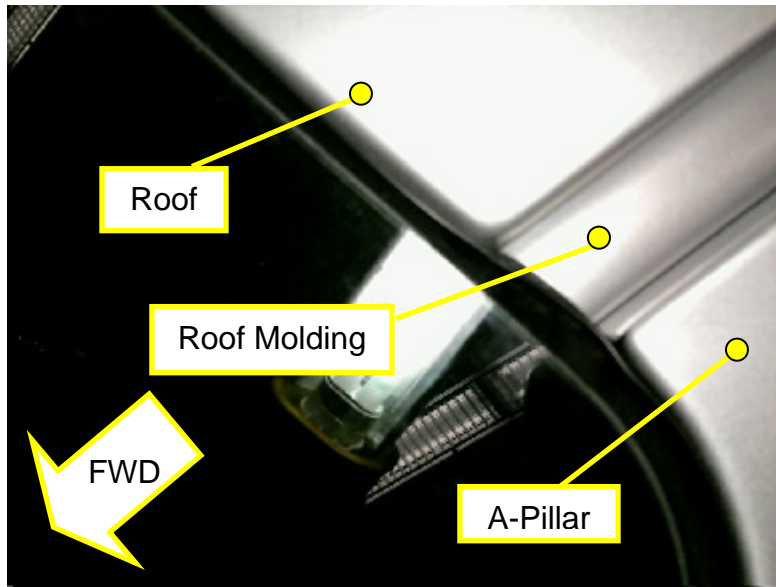

Figure 3 - Molding Alignment (Left Side Shown)
- a. Begin at the front of the vehicle and align the molding with the roof and A-pillar as shown in (Fig. 3).